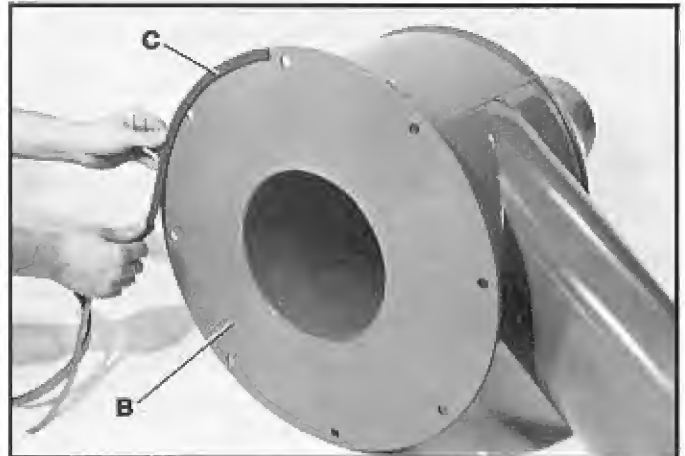
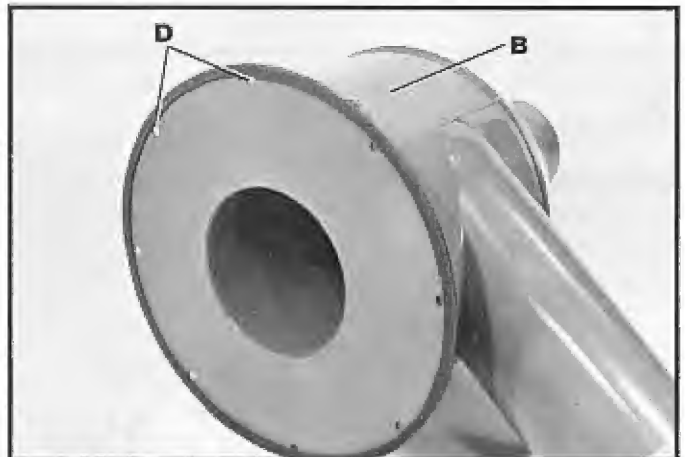
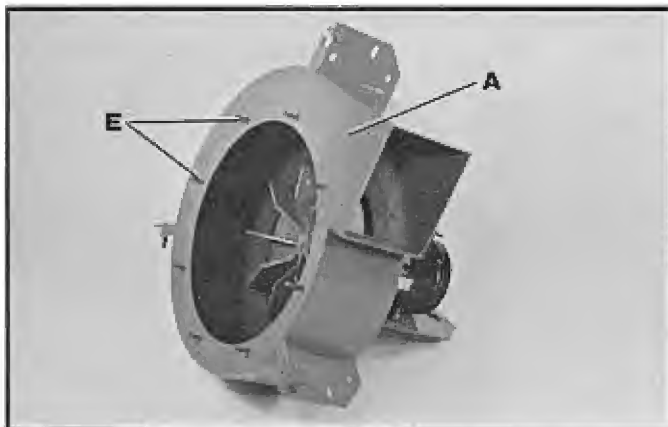
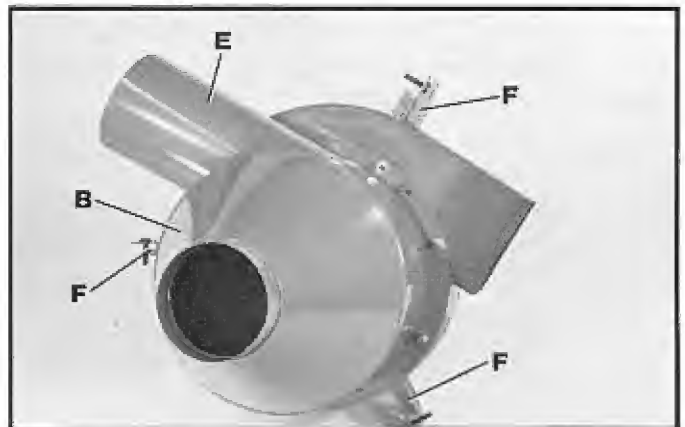

Fig. 4
Fig. 5
Fig. 6
Fig. 7
2. Remove the paper backing and start the 1/2" wide gasket material (C) Fig. 4, supplied, around the outer edge of cyclone separator (B), and continue until a complete circle is formed as shown in Fig. 5. Cut off any excess gasket material. **NOTE:** The purpose of this gasket is to prevent any air leakage into the blower. If the gasket is not installed properly, sound levels will increase during operation.
3. Remove protective sleeves from studs (E) Fig. 6. Align the eight holes (D) Fig. 5, of cyclone separator (B) with threaded studs (E) Fig. 6, of blower housing (A) and attach the units together as shown in Fig. 7. **IMPORTANT:** Cyclone separator (B) Fig. 7, can be rotated to any position best suited for the inlet tube (E); however, do not position cyclone separator (B) so intake tube (E) will interfere with three leg mounting lugs (F).